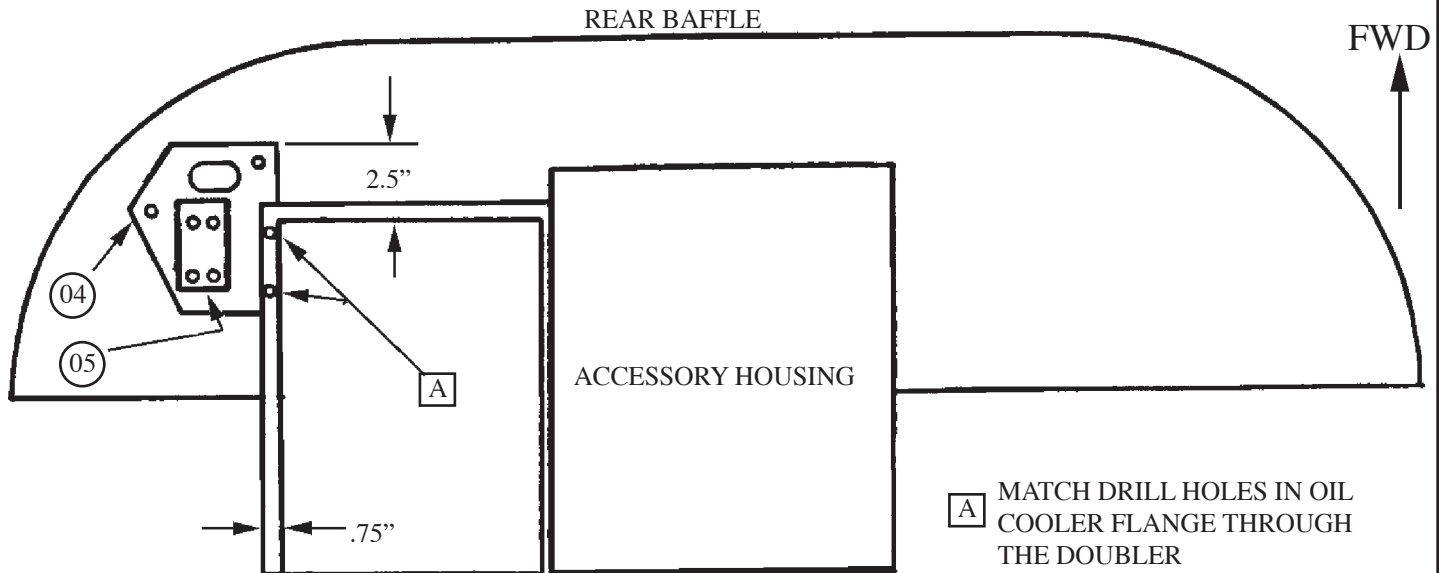

FIGURE 2
09. Install (2) each of items 10, 11, & 9 in the remaining (2) holes of the doubler.
10. Install the AirSep to the Universal Bracket as shown in figures 2 & 3.
11. Connect the hose (Item 16) between the engine breather and the 3/4" inlet to the AirSep. Clamp with (2) each of item 20.
12. Connect the hose (Item 14) between the 1/2" inlet of the AirSep and the Air-Tee (Item 4). Clamp with (2) each of item 19.
13. Connect the hose (Item 15) between the Air-Tee and the vacuum pump outlet. Clamp with (2) each of item 19.
20. Install the duct (Item 24) to the 1-3/4" outlet of the AirSep. Clamp with (1) each of item 21.